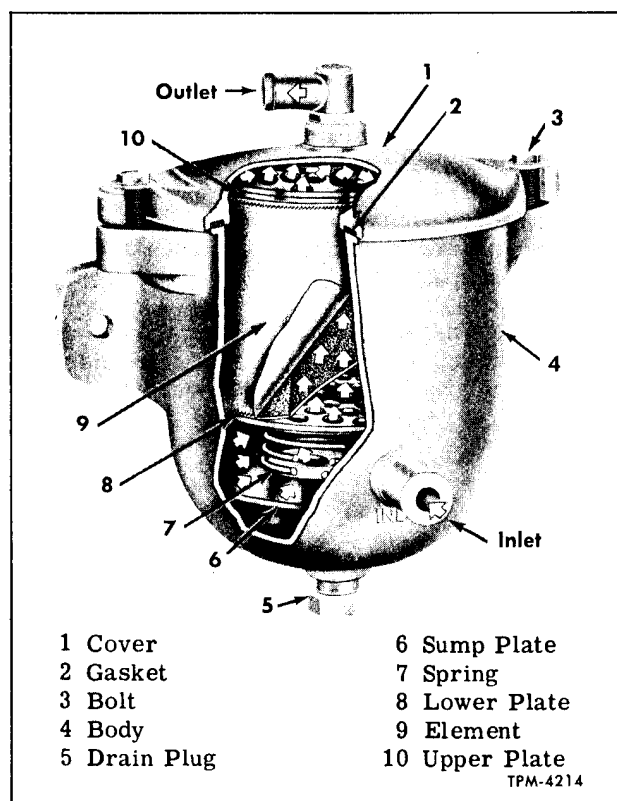

Figure 5—Water Filter Assembly
Key numbers in text refer to figure 5, unless otherwise indicated.
7. Assemble components in body in order shown in figure 5, using new element. Install cover using new gasket. Open shut-off cocks at side and top of filter housing.